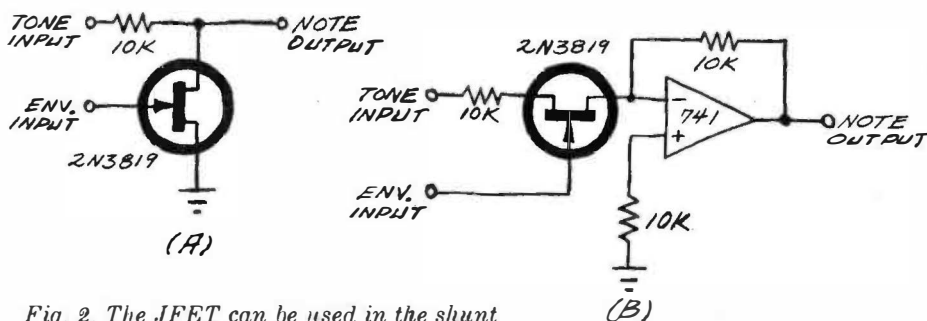

Fig. 2. The JFET can be used in the shunt mode (A) or the series mode circuit (B).
Fig. 2. Simple diode keyer (A) thumps as envelope appears in output. Two diodes (B) eliminate most of output thumping. Four-diode version (C) saves one capacitor and has lower distortion.